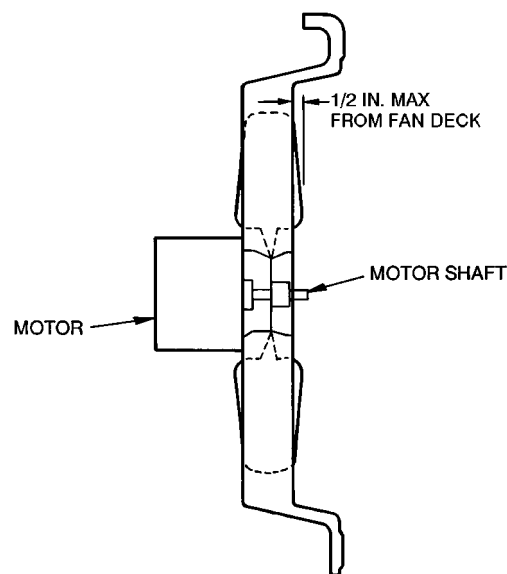

Fig. 35 — Fan Blade Clearance
4. When replacing fan blade, position blade so that leading edge is 2 in. back from condenser inlet grille or 1/2 in. maximum from fan deck. See Fig. 35.